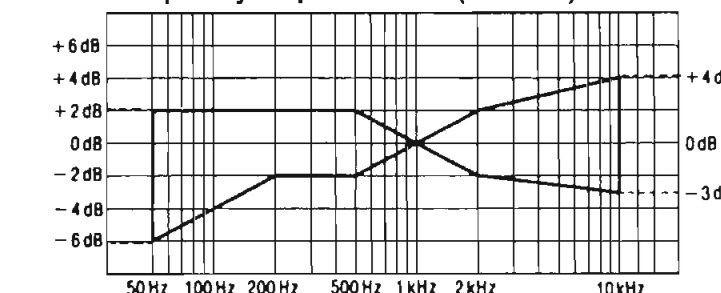

Fig. 11
- Playback the recorded signals and, using the 1kHz playback output as a reference (0 dB), confirm that the output between **TP3 / TP4** and **TP5** confirms to the overall frequency response shown in Fig. 11.